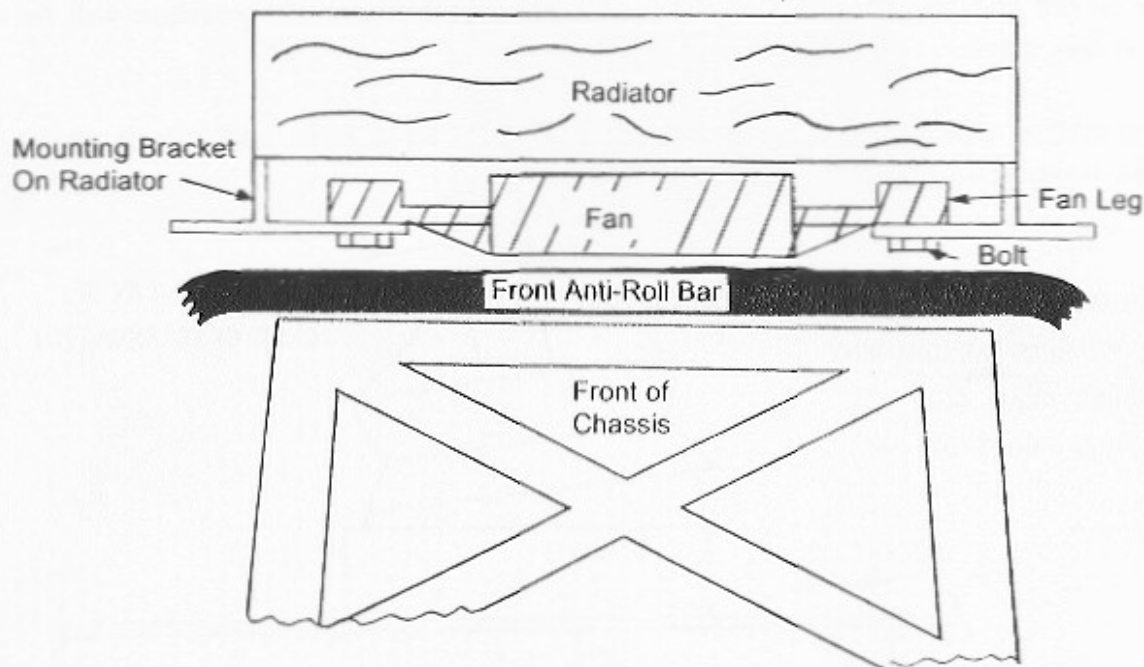

Figure 10.7.1 Fan - Fitment to Radiator
7.1 Before the radiator can be fitted, the cooling fan needs to be fitted to the rear of the radiator. Four 6mm serated hank nuts should be pushed into the tapered holes in the fan legs (These may have already been fitted). These can be pushed until flush using a vice, or pulled through using an M6 bolt. The fan should be fitted between the body of the radiator and the brackets on the rear of the radiator and fastened using M6x16mm bolts. It may be necessary to space these bolts out using 6mm plain washers to prevent the possibility of the bolt touching the radiator. (See figure 10.7.1)